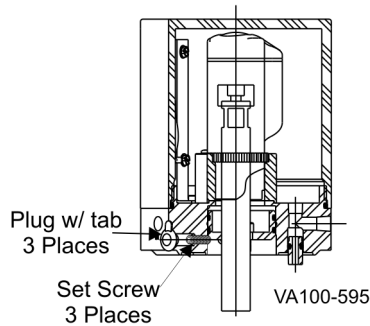

Figure 23: Control Top Removal
2. Remove the (3) set screws behind the (3) plastic plugs with tabs at the base of the module (see Figure 23).